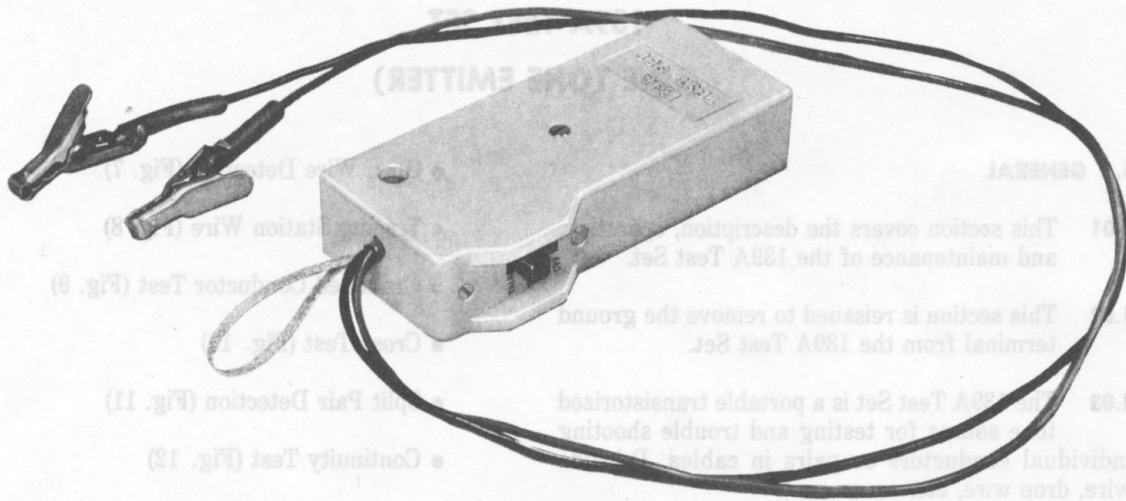

Fig. 1—139A Test Set
- 2.01** The 139A Test Set (Fig. 1 and 2) is 2-1/4 inches by 5-1/2 inches by 1 inch in size and weighs approximately one pound. It consists primarily of a talk-tone-off 3-position slide switch, ringing detector lamp, printed wiring board, two KS-14368, or equivalent, batteries, two test leads with clips, and a lanyard for hanging or carrying.